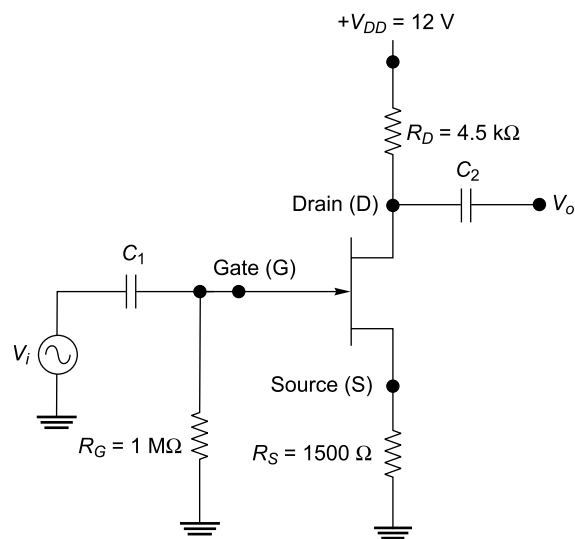

Fig. 1.91
49. Find the value of voltage gain of a FET amplifier as shown in Fig. 1.91. The FET has the following parameters: